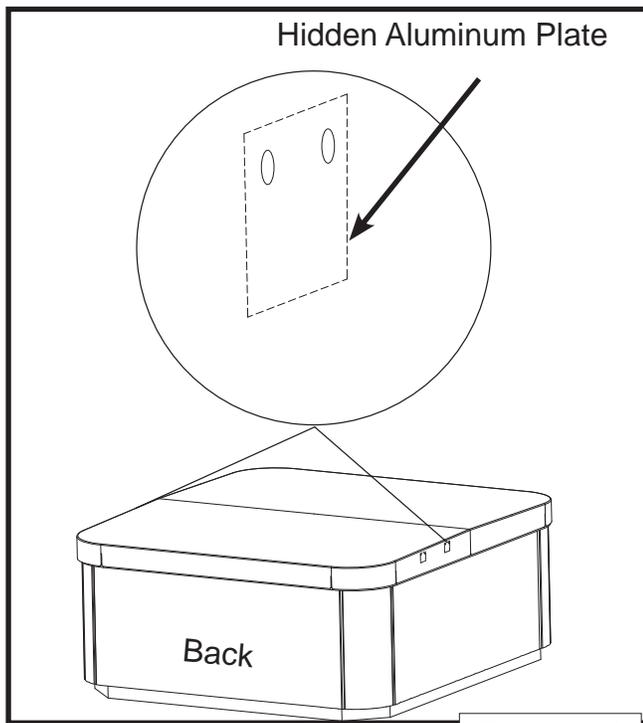
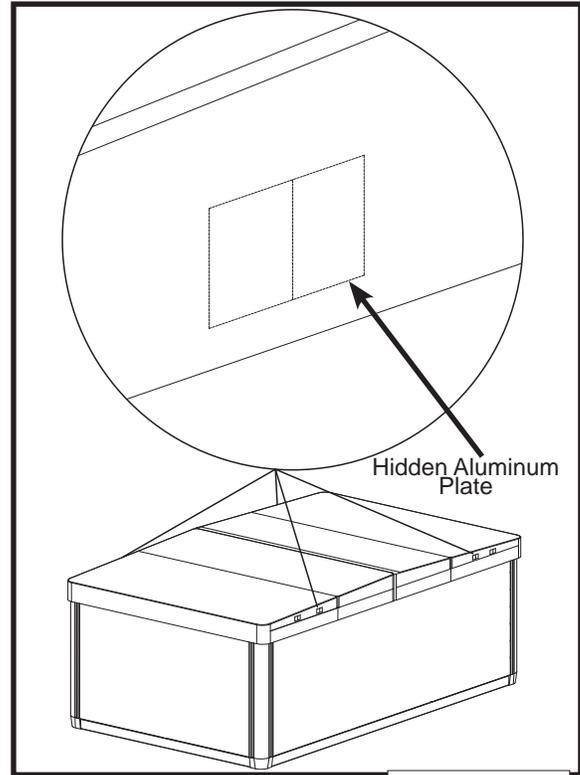

Figure 1.6
Figure 1.7
- 1a. Watkins covers have 4 aluminum plates installed into the foam core hidden beneath the vinyl on the sides of the cover. There are two on each side of the cover set (Figure 1.6). Use the Aluminum Plates that are located close to the center of spa.
- 1b. EP covers have two sets of covers. There are two aluminum plates on each side of the cover set (Figure 1.7). Use the Aluminum Plates that are located close to center the cover set (Figure 1.7).
2. Using your finger to locate the aluminum plate illustrated by a square, ((Figure 1.6) for spas and (Figure 1.7) for Endless Pools), mark the line in between the two pre-drilled holes behind the vinyl for later reference.